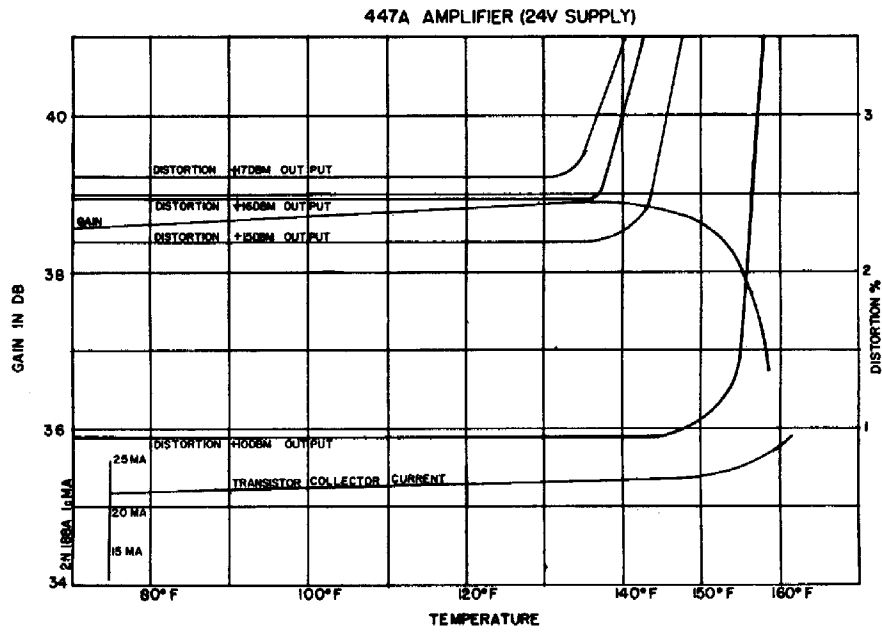

FIG. 5
3.03 Gain characteristics, distortion characteristics, and the output transistor collector current characteristics over the temperature range of 80°F to 160°F are shown in Figure 5. At elevated temperatures the power rating of the transistor decreases appreciably; and, while the data of Figure 5 was obtained under 24 volt operation, it is necessary to decrease the supply to 12 volts for continuous operation of the unit at high temperature. Change of gain vs. output power characteristic at the normal and reduced voltages is shown in Figure 6. Total current consumption at 12 volts is 12 ma.